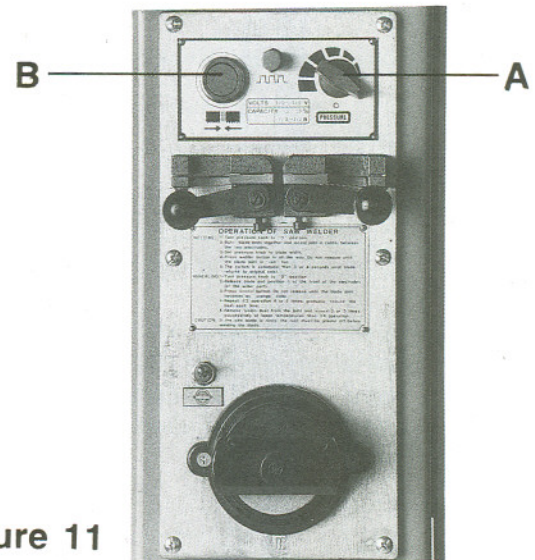

Figure 11
1. Turn pressure switch (A, Fig. 11) to the zero position.
3. Set pressure switch (A, Fig. 11) to blade width according to the scale.
4. Press weld button (B, Fig. 11). Do not release until the weld has been completed.